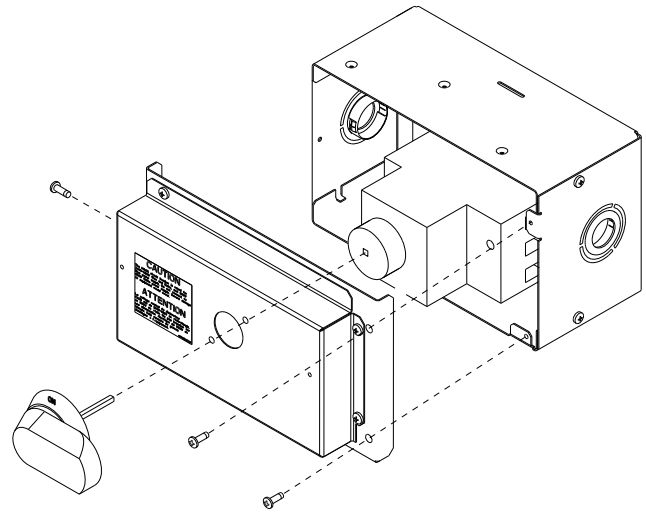

Fig. 35 — HACR Handle and Shaft Assembly
5. Insert the shaft all the way with the cross pin on the top of the shaft in the horizontal position. See Fig. 35.
9. Secure the handle to the painted cover with (2) screws and lock washers supplied.
10. Engaging the shaft into the handle socket, re-install (3) hex screws on the HACR enclosure.